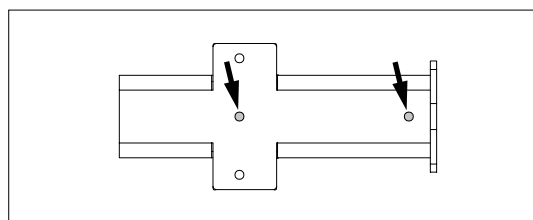

Fig. C3.04b
3. Align Girder VT 20 on the Adapter (15) accordingly and secure with 2 Torx screws 6 x 60 (99) per Adapter. Use the marked screw holes. (Fig. C3.04b)